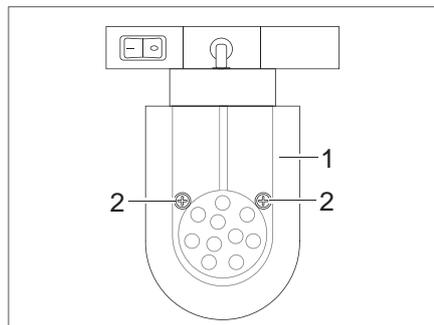

Fig. 178 LED spotlight (movable)
- Loosen the fixing screws (Fig. 178,2).
- Remove the lamp glass cover (Fig. 178,1) carefully.